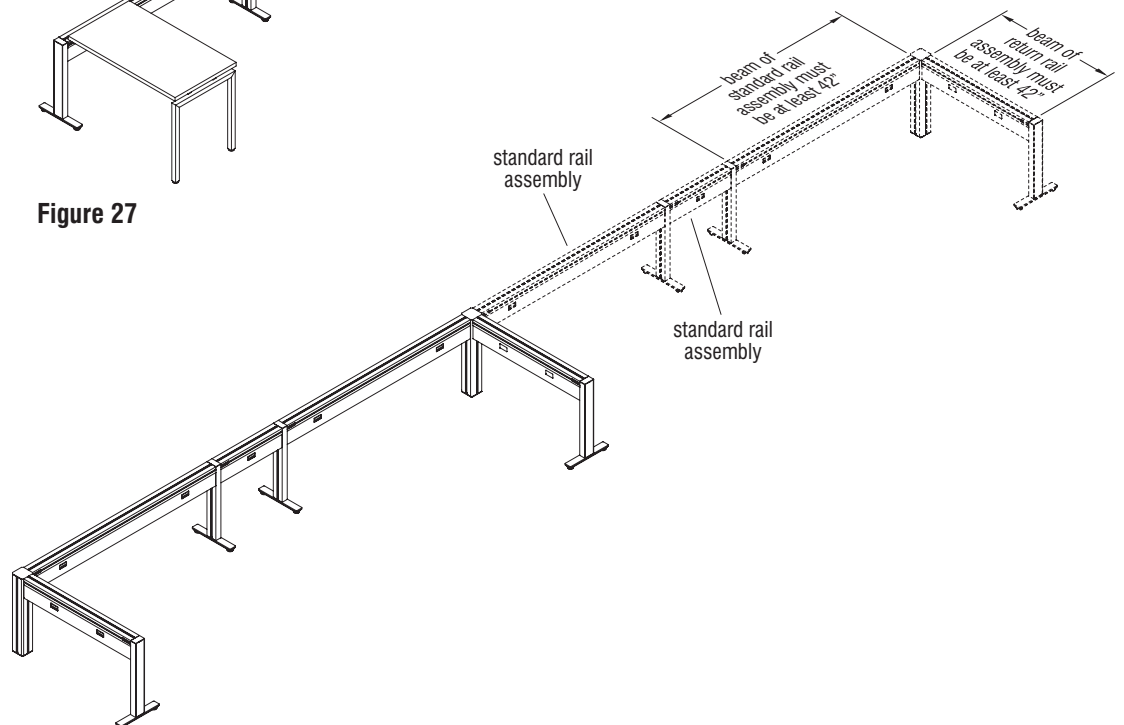

Figure 28
- Three is the maximum number of in-line standard rail assemblies which can be configured in a row before another return rail assembly or return worksurface must be added (Figure 28).